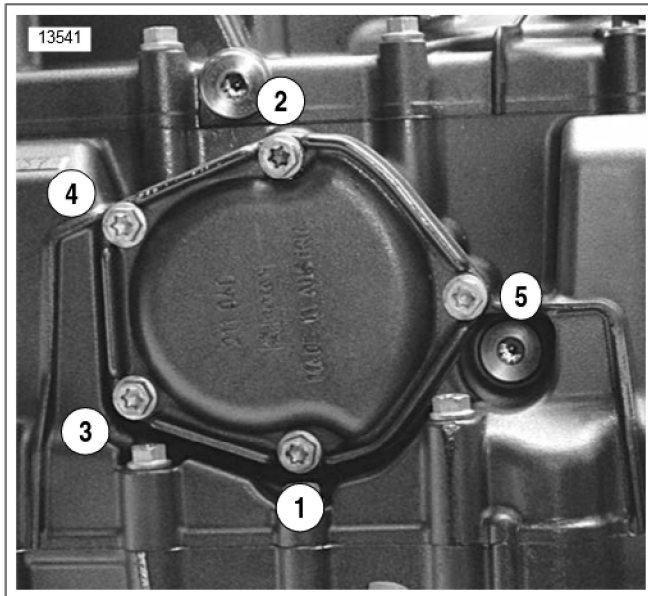

Figure 5. Oil Strainer Cover Torque Sequence
- e. See Figure 5. Tighten in sequence to 11 Nm (97 **in-lbs**).